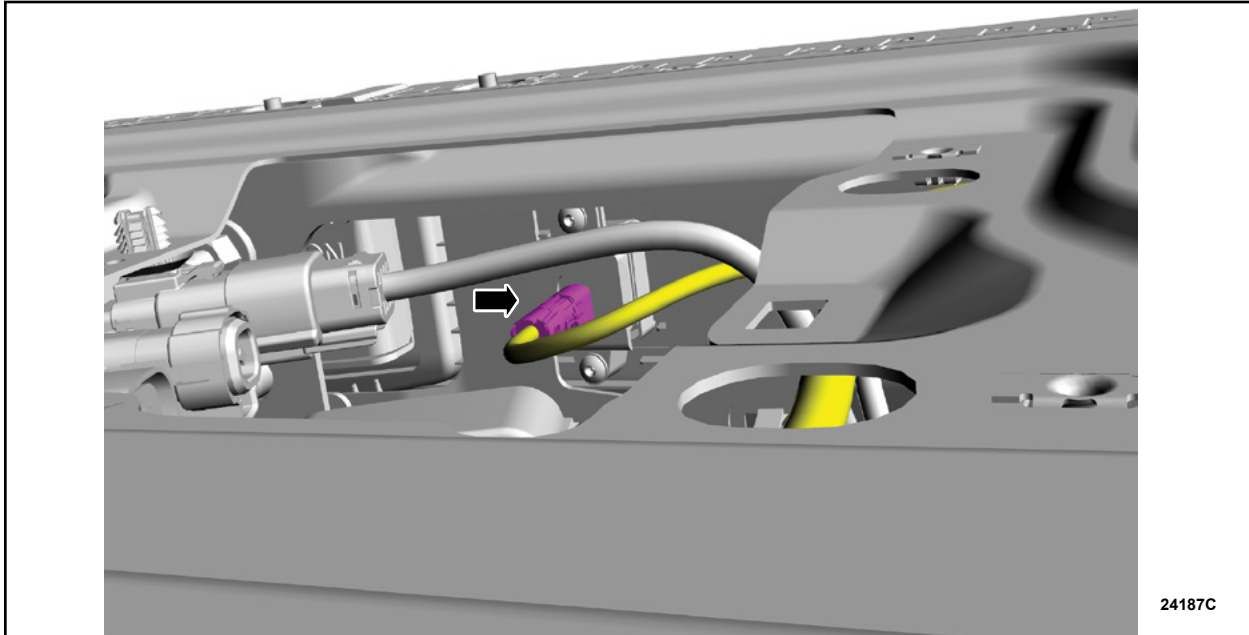

FIGURE 12
13. Connect the *new* tailgate camera wiring connector to the *new* tailgate camera. See Figure 12.